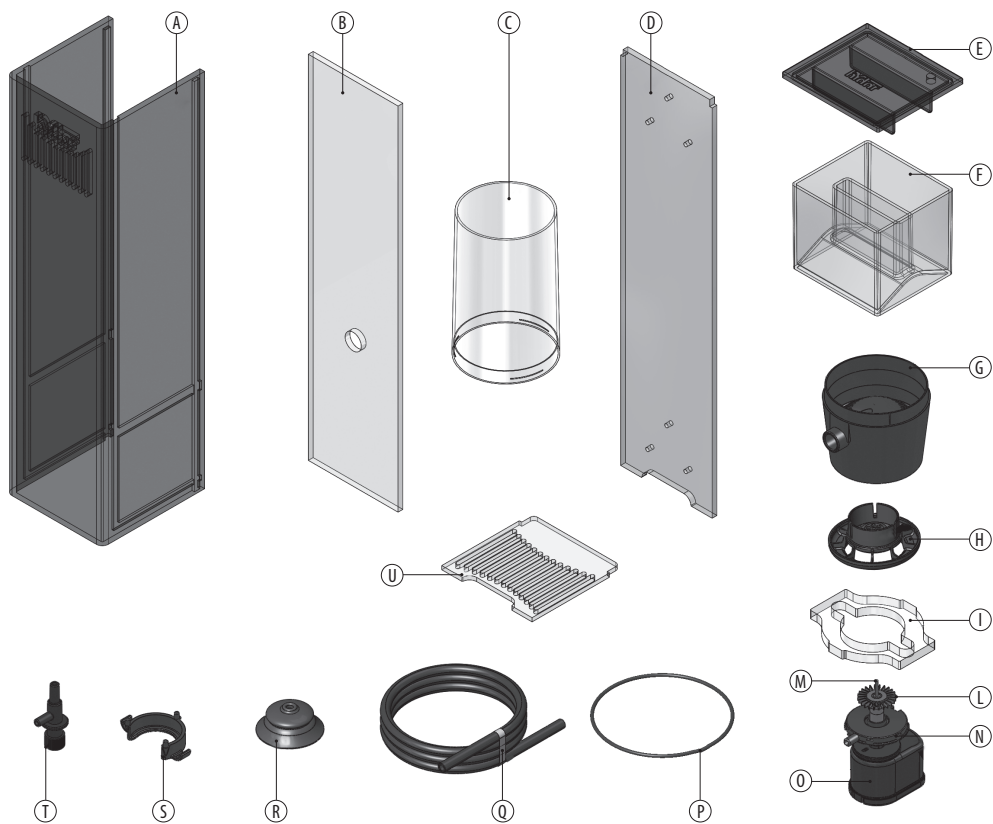

fig 1
Slimskim Nano is first supplied with the pump already assembled and in the correct position. The following instructions (from fig. 1 to 9) should be followed closely when carrying out maintenance and/or replacing parts.
- Click the air intake chamber (N) on the motor (O) –fig.1